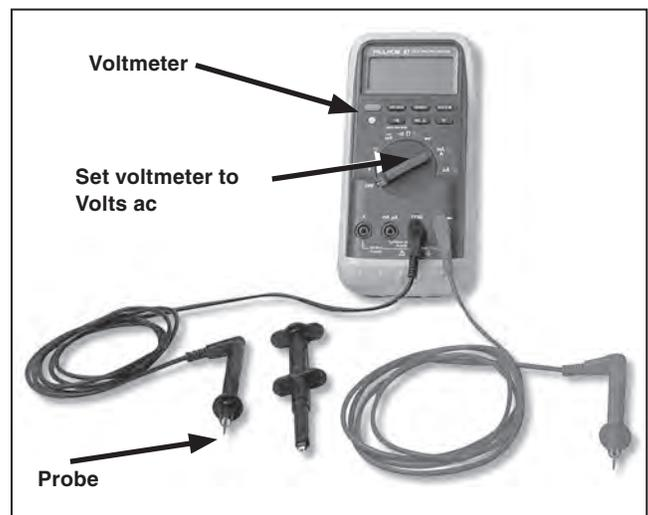

Figure 48. The high-impedance voltmeter and test probes.
- STEP 3.** Using a high-impedance voltmeter, as shown in Figure 48, verify voltage is present and determine the phase-to-ground voltage for each phase of the two ways● to be phased as follows: